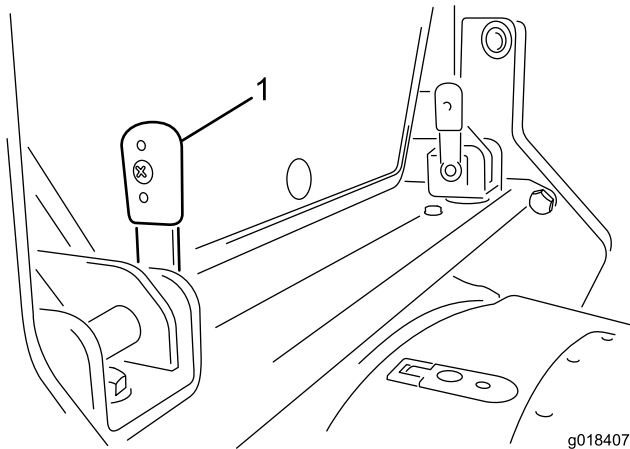

Figure 12
1. Rotate the two locking levers, located on the cross beam at the rear of the cab, so that they point upward (Figure 12).
3. With the levers in the vertical position (Figure 12), push them through the sets of brackets. It might be necessary to wriggle the levers into the brackets to align the locking pegs in the slots.